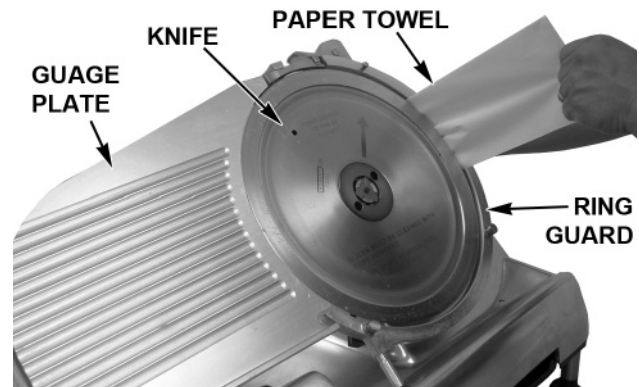

Fig. 16
- Clean completely around the Ring Guard by working a moistened, folded paper towel between the Ring Guard and the Knife (Fig. 16).